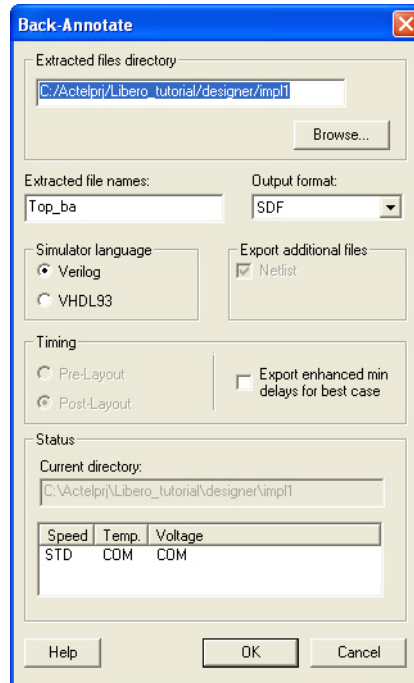

Figure 1-45 • Back-Annotate Dialog Box
1. Click **Back-Annotate** to extract post-layout timing delay information from your design for simulation. The Back-Annotate dialog box appears (Figure 1-45).